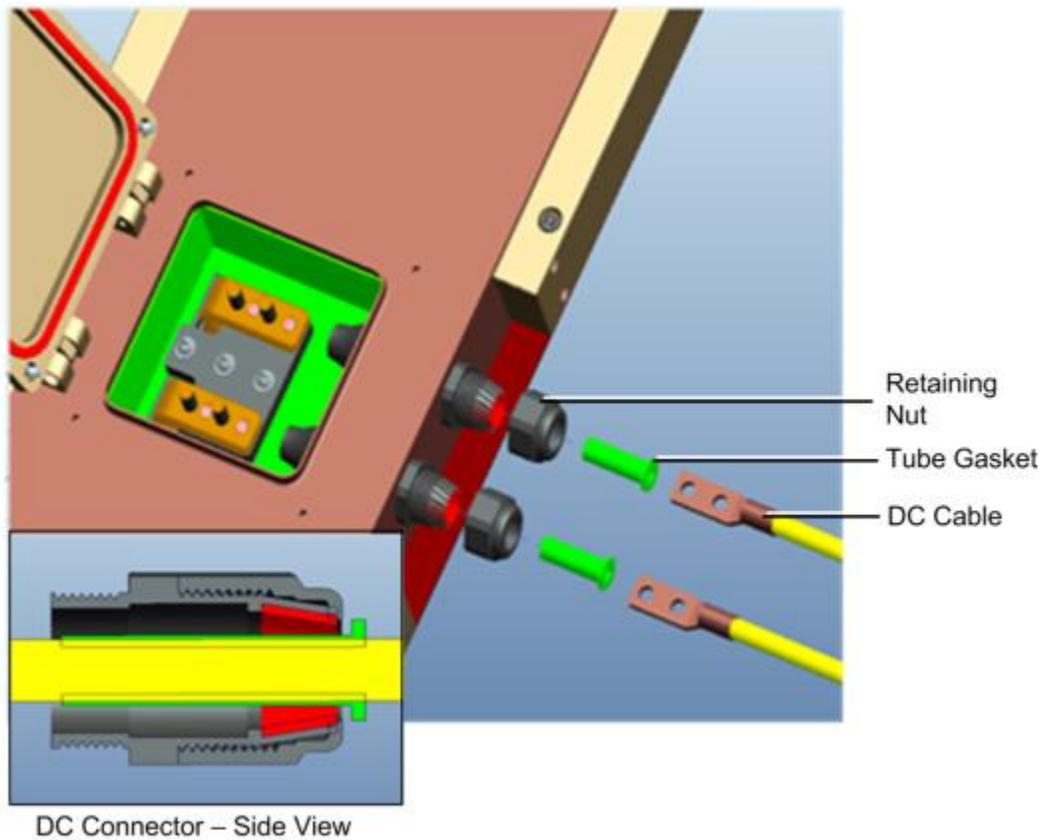

Figure 3-33. Connecting power Cord to Terminal
2. Referring to Figure 3-33, remove retaining nut, insert DC power cable through tubing gasket (provided), then carefully route the power cable into the chamber (through hole) and connect the lug to terminal (make sure right DC polar is connected).